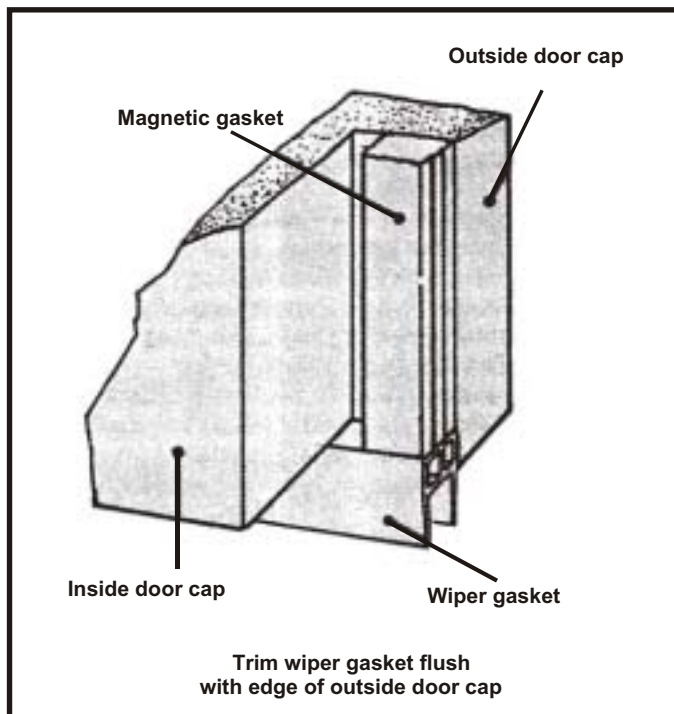

Fig. 15
- D. gasket is too wide. Be sure the gasket is properly centered, and trim the ends as needed. See Fig. 15